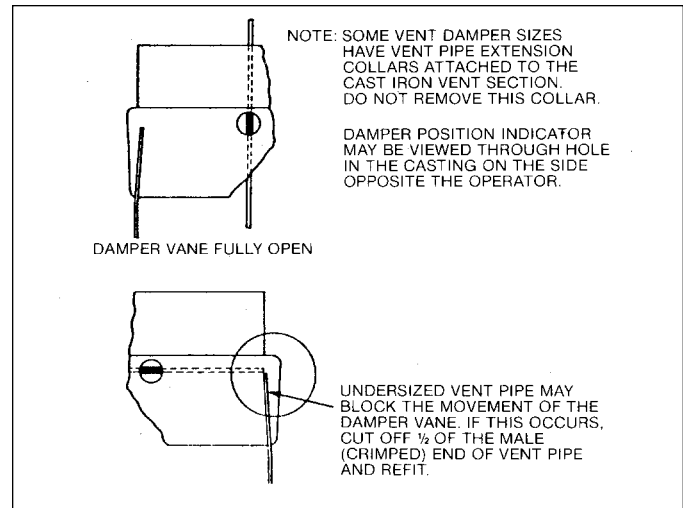
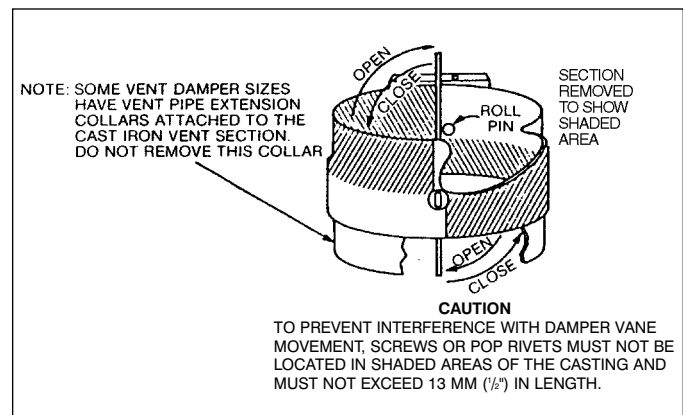

Figure 4.
Figure 6.
1. Separate the vent pipe directly on top of the draft hood or diverter and place damper in position as shown in figures 1-6. The vent damper must be installed so that the damper position indicator is in a visible location after installation. See figure 4 for position indicator description. The arrow imprint on the damper should point in direction of vent gas flow (towards chimney). Re-assemble the vent piping. Be sure the vent damper is well seated and fastened with 3 sheet metal screws. Screws should be no longer than 13 mm (1/2 inch). See figure 6.
2. Be sure that undersized vent pipe does not block movement of damper vane (see figure 4).
Thermostat connections must be to T and TV screw terminals of boiler temperature control (See Figure 4).